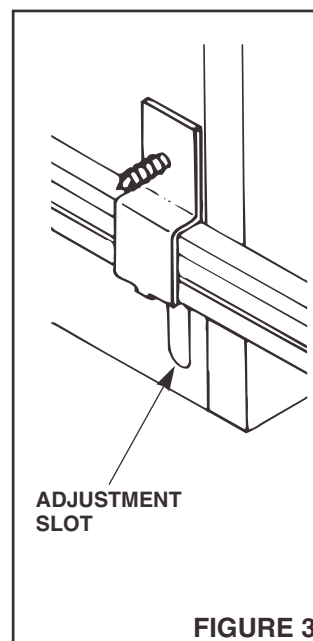

FIGURE 3
1. Install hanger bar brackets in slots in housing. (See Fig. 3)
3. Refer to Figure 3. Slide hanger bar brackets down to end of slot closest to outside edge of housing. Tighten brackets in this position.